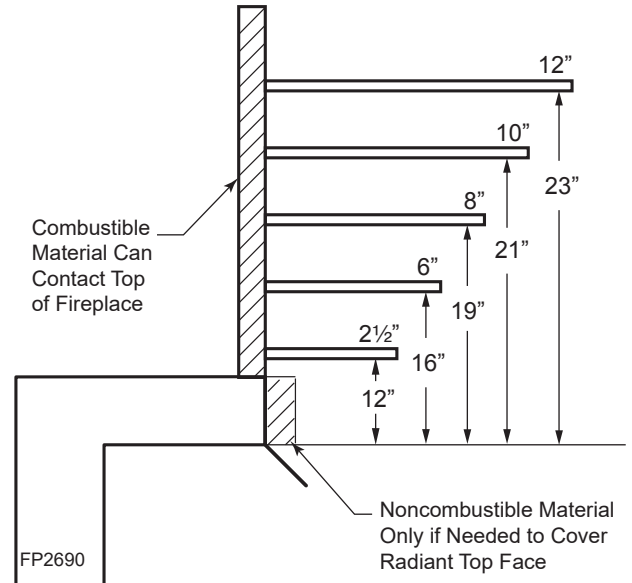

Figure 6.2 Mantel Clearances
- Mantel clearances:** If a combustible mantel is installed, it must meet the clearance requirements as shown in Figures 6.2 & 6.3.